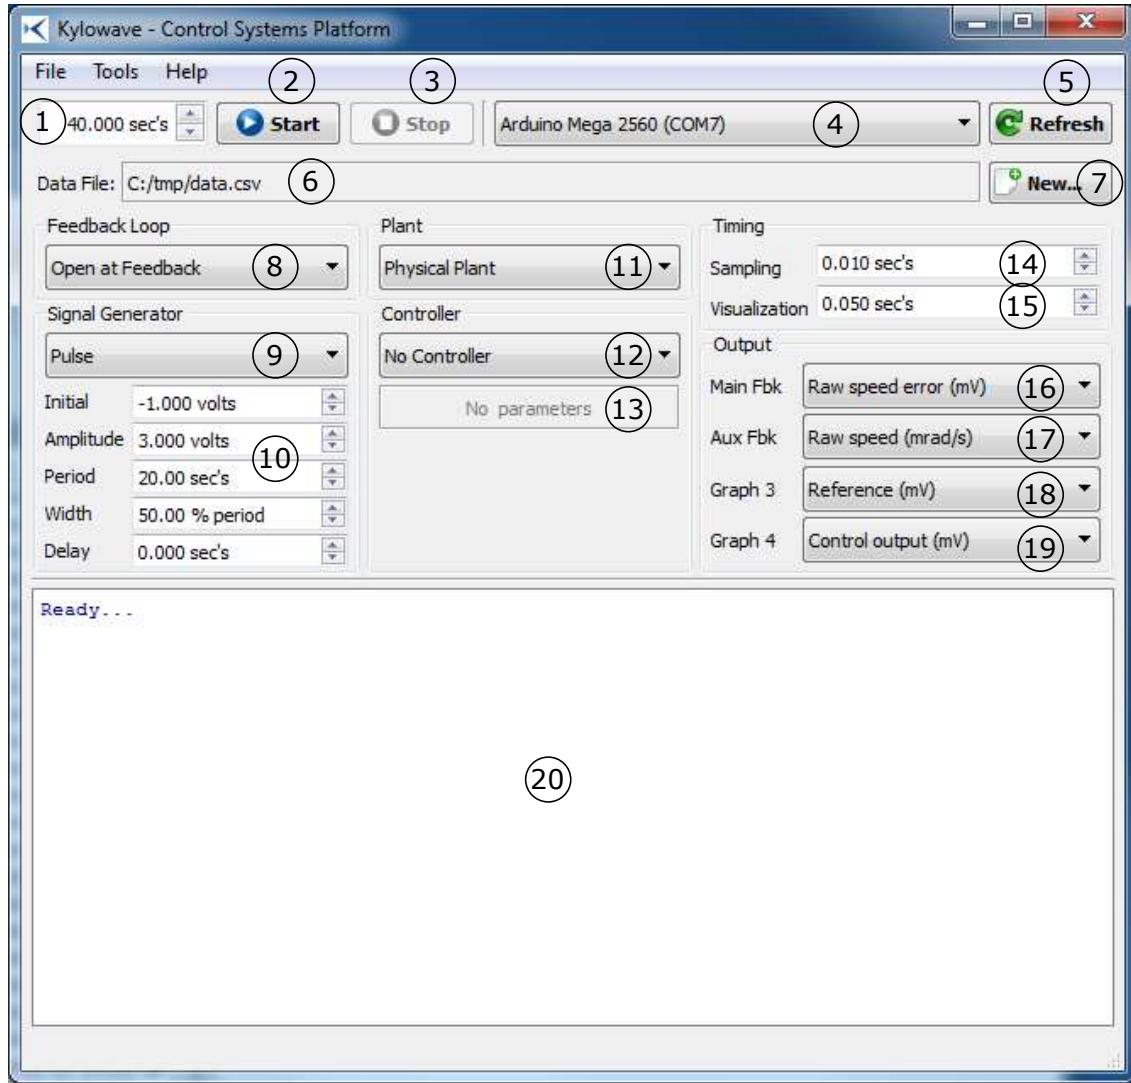

Figure I-2.1: K-CSP's graphical user interface
The interface with the hardware is done through a graphical user interface (K-CSP GUI) which is the main window to show up when you launch the application (Fig. I-2.1). The following is a brief description of the K-CSP features.
The GUI of Fig. I-2.1 will show up on the screen.
Select the proper communication port (label 4 on Fig. I-2.1) if it was not already automatically selected by the software. The port number may vary from computer to another, but you may identify the right port by the label "Arduino Mega 2560".
3. Select the proper communication port (label 4 on Fig. I-2.1) if it was not already automatically selected by the software. The port number may vary from computer to another, but you may identify the right port by the label “Arduino Mega 2560”.